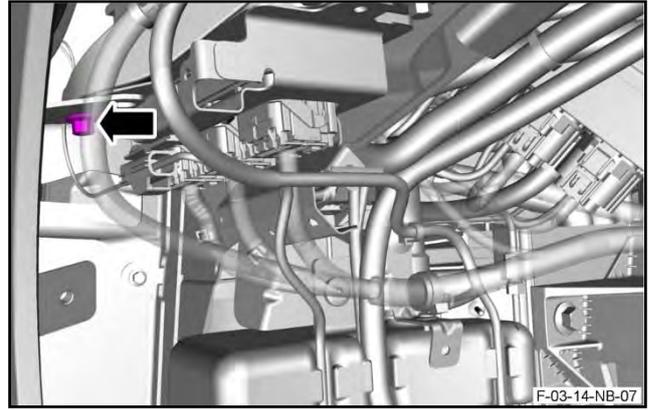

Figure 7
13. Remove the bolt that attaches the check-arm bracket for the front door, to the PCM bottom bracket (refer to Figure 7).